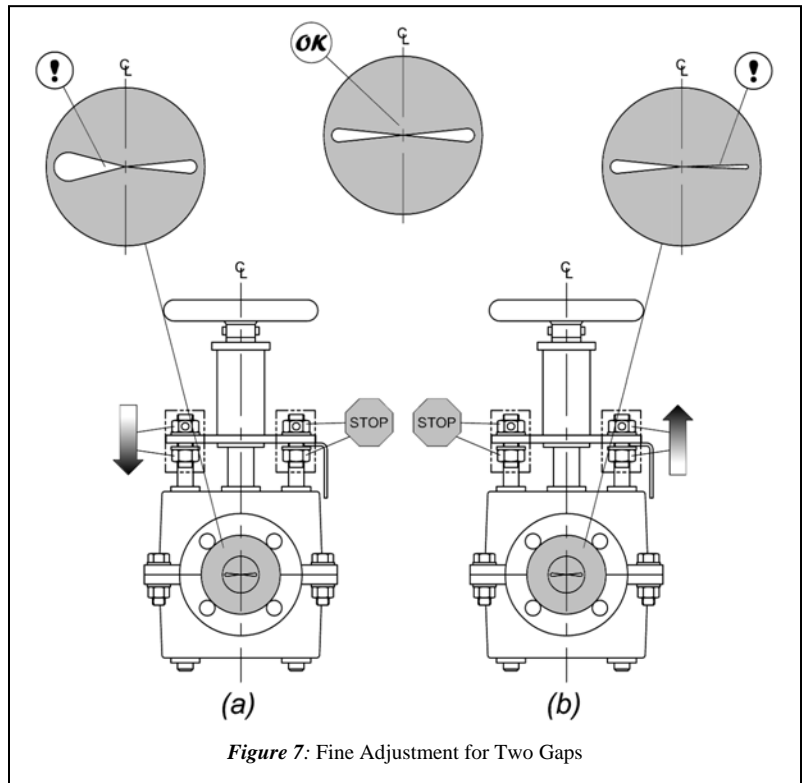

Figure 7: Fine Adjustment for Two Gaps
STEP 6: Actuate the RF Valve® completely open until the hand wheel stops turning and then turn the A-nuts against the fastening plate ③ (Fig. 7). DO NOT allow the B-nuts to turn/move along the pull bar ② during this step!